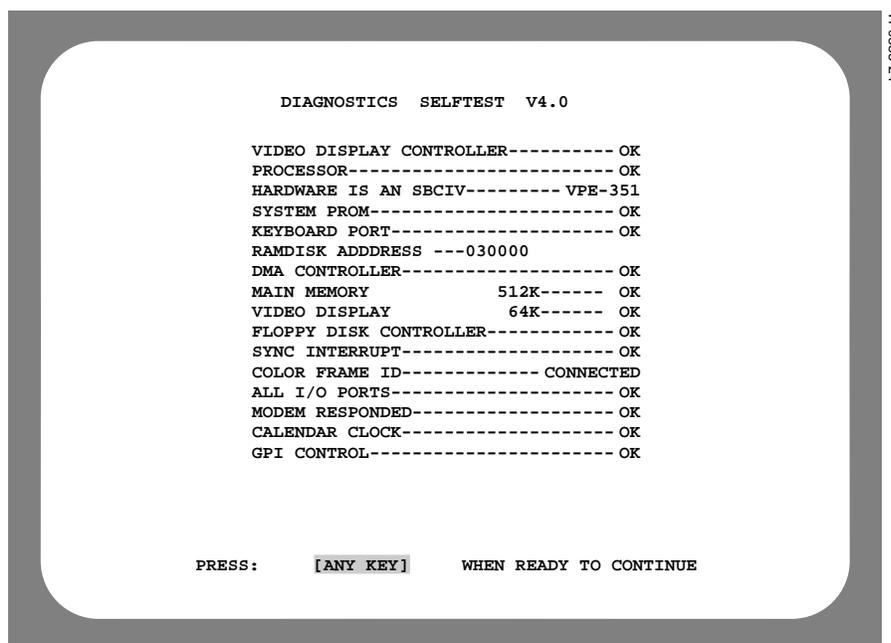

Figure 3-11. PROM-based Self-test Results
2. Use the [←], [→], [↑], and [↓] keys until the PROM-based self-test selection is highlighted and press [ENTER]. After a few moments, test results appear. (See Figure 3-11 for an example.)